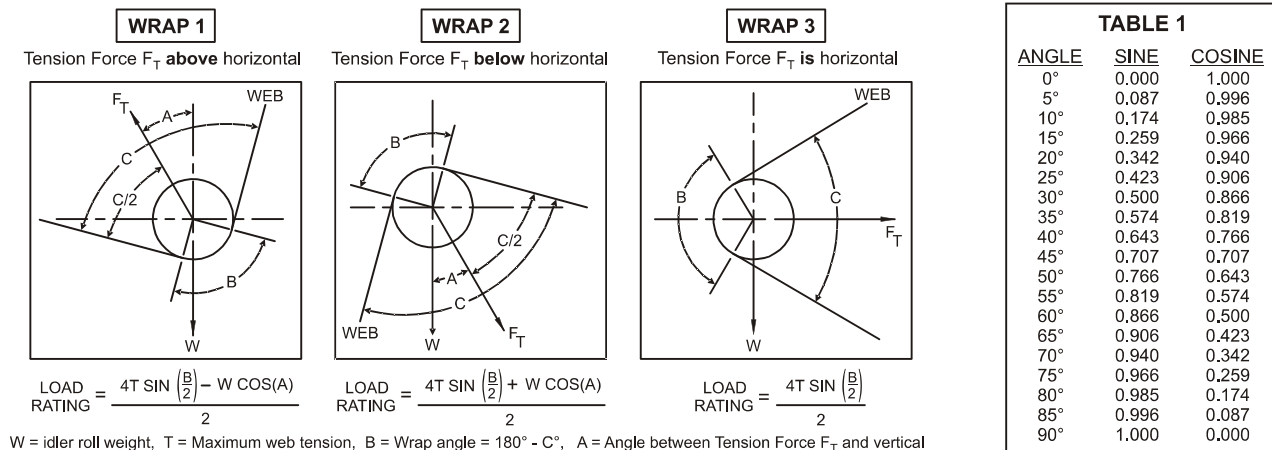

Figure 8 - LOAD RATING SELECTION FORMULAS
Refer to Figure 8. Select the appropriate wrap configuration as determined by the direction of the tension force (above, below or on horizontal). Compute the Net Force, using the formula below the wrap diagram.
- B. Increase angle A. (see Figure 8)